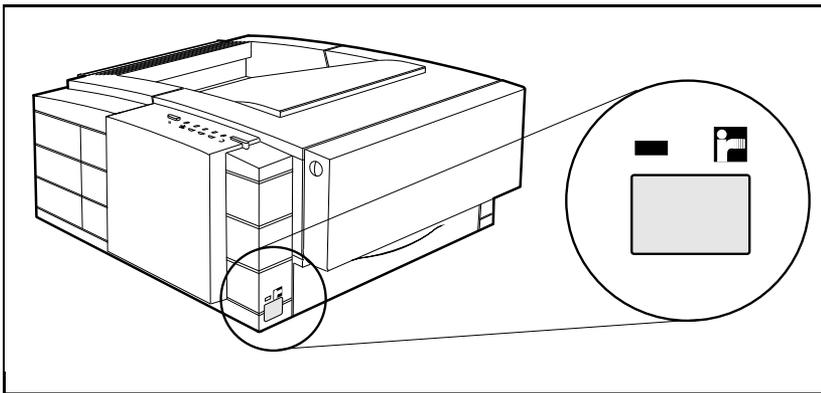
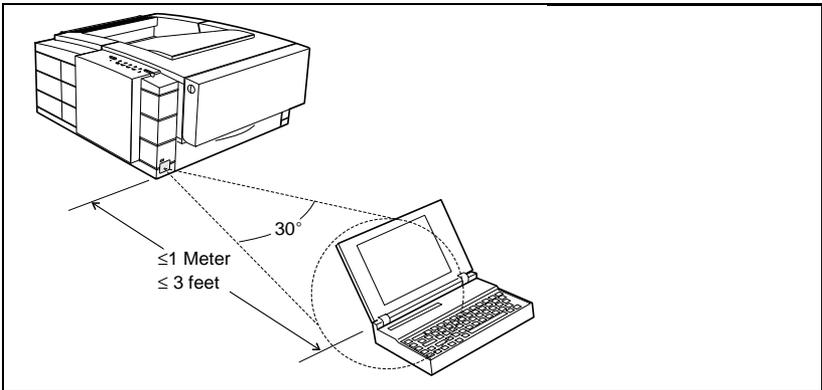

Figure 9 IrDA Port Location (5P/5MP shown)
Figure 10 IRDA Port ranges (5P/5MP shown)
The infrared (IR) port on your HP LaserJet 5P/5MP or 6P/6MP printer is located on the lower front left corner of the printer (Figure 9). This port is compliant with the specifications determined by the Infrared Data Association (IrDA). Just above the port is a status light that indicates when the port is activated. To use the IR port, you need to use a portable device that also includes an IrDA-compliant IR port and be within the range of operation (see Figure 10).
2. Align your laptop computer (or other portable equipment) that is equipped with an IrDA-compliant IR port within 3 feet (1 m) of the IR port on the printer and at an angle of ± 15 degrees to ensure printing (Figure 10).
If all these elements are properly installed and configured, use the IR test tool to test the IrDA protocol transmission and device operation. This tool for troubleshooting IR communication problems, shown in Figure 10, has been developed by Genoa Technology, Inc., in cooperation with Hewlett-Packard. The part number is 5062-4661 and can be ordered through HP Parts Direct Ordering.